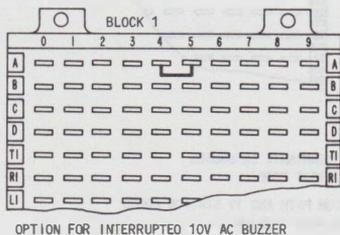

Fig. 13—E Option
4.11 The E option (Fig. 13) provides interrupted 10V ac to operate station buzzers when the station codes are dialed. Option E consists of a strap on block 1 of the 626A panel between terminals 4 and 5 on row A.